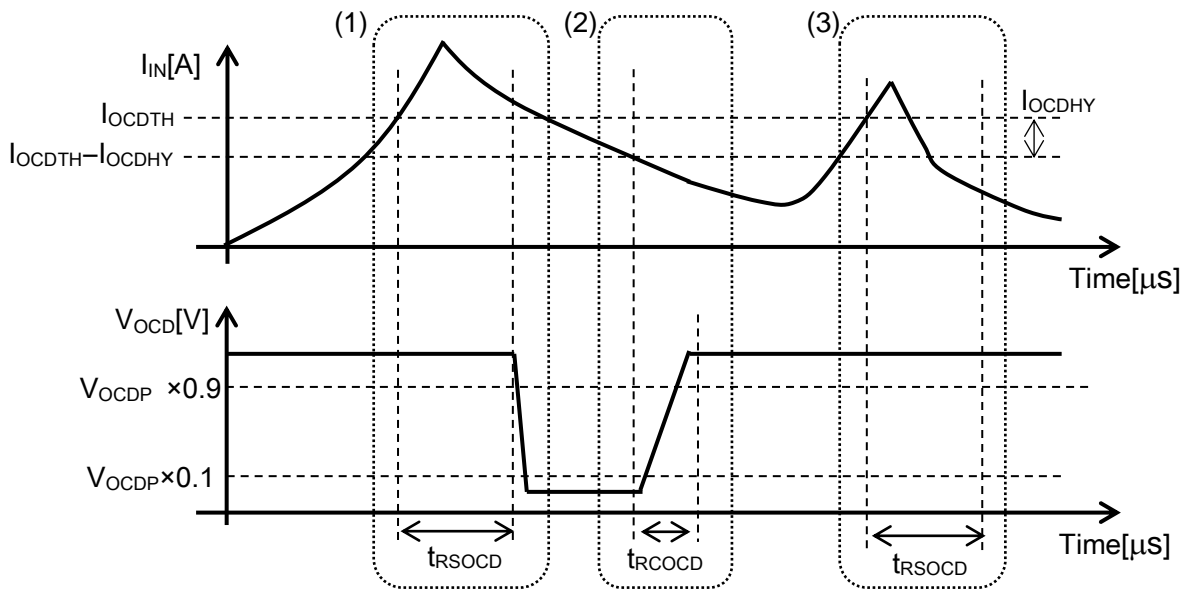

Figure 6. Overcurrent Detection Function of CZ-3AG4
**10.4. Overcurrent Detection Function is operated as below. (See figure 6.)**